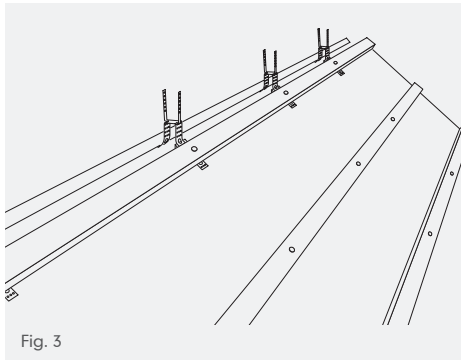

Fig. 3
- 2 Fix the top course tiling battens into position, over the ridge batten brackets, leaving sufficient room for the tile nibs and to ensure the ridge tiles overlap the top course of tiles by no less than 75mm (Fig. 3).